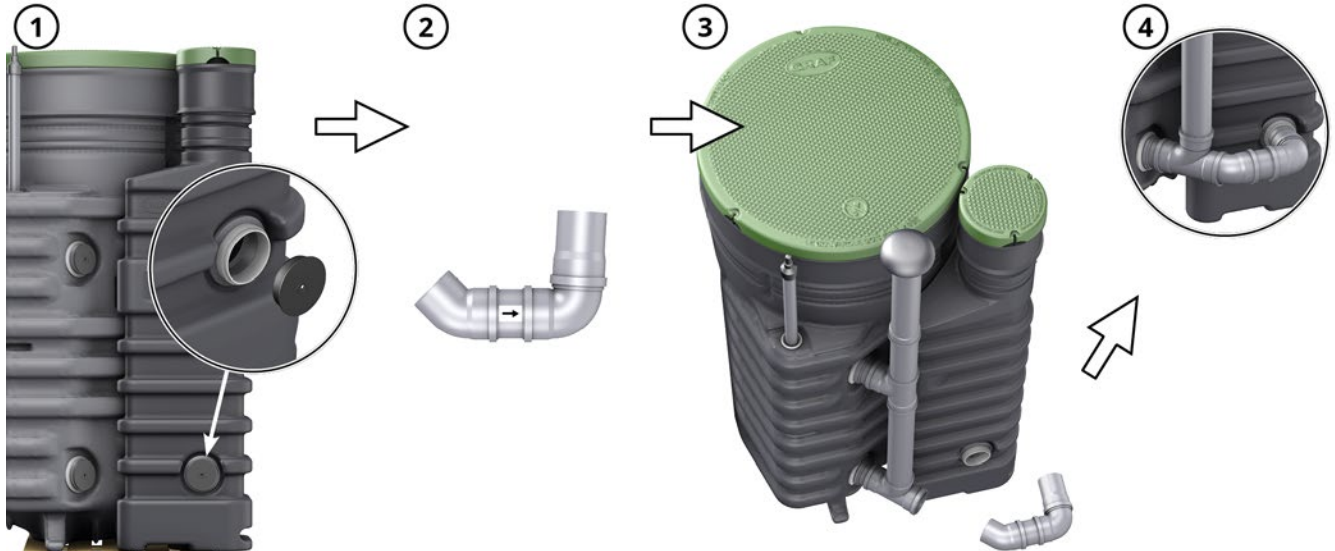

Fig. 14: Fitting the overflow to the pump shaft
2. Position the overflow set at the branch fitting of the ventilation set and at the pump shaft inlet as shown in Fig. 14 and push it into the openings completely.
- ① The arrow mark must point towards the pump shaft.